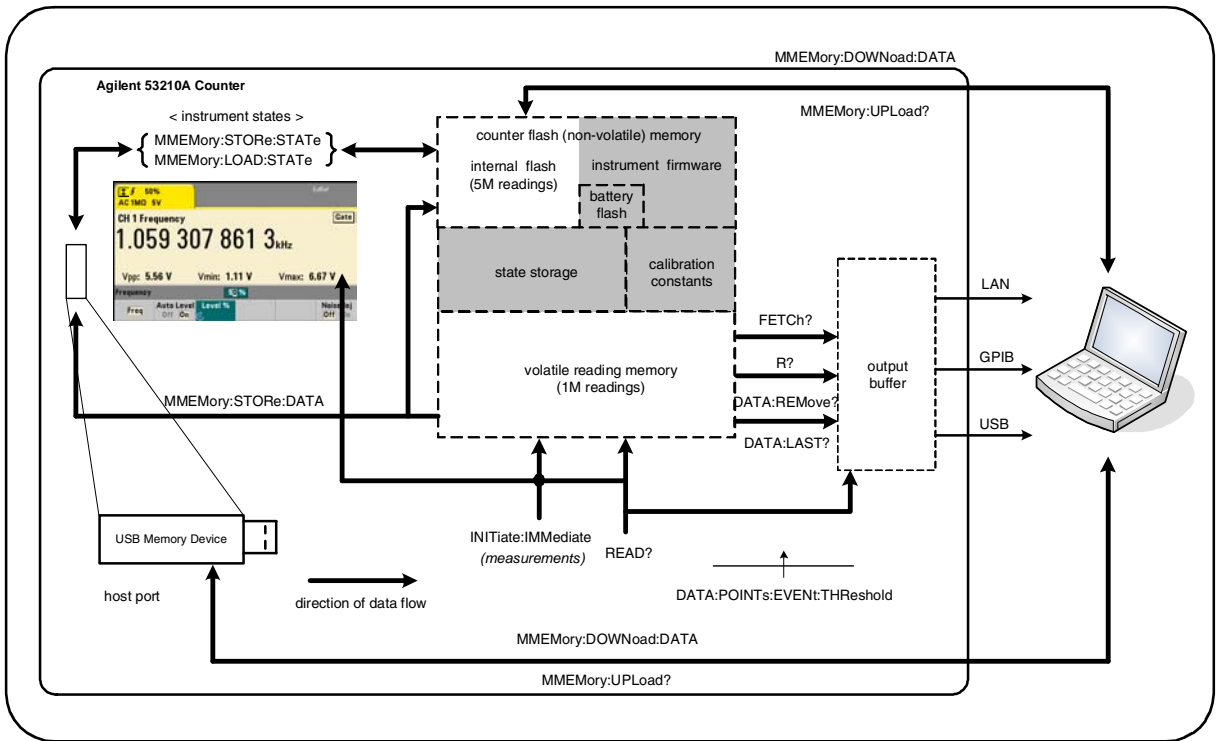

Figure 7-1. Data Flow within the 53210A Counter.
The flow of measurement data within the counter is summarized in Figure 7-1.
Counter measurements taken from the **front panel** or from an IO interface appear in the display as indicated in Figure 7-1. See Chapter 1 for an overview of display features.
In addition to being displayed, all counter readings are stored in the counter's **volatile reading memory** (Figure 7-1). Memory capacity is 1,000,000 readings. Reading memory has the following attributes:
Data is available to the PC over the LAN, USB, and GPIB interfaces once it is in the output buffer (Figure 7-1). The following section explains how readings are transferred from memory to the buffer. If during a transfer the **output buffer** fills, command execution is paused until readings are removed by the PC - creating room in the buffer. No readings are lost.
**READ?** - is equivalent to executing INITiate:IMMediate directly followed by FETCh?. With READ?, once **all** readings specified by TRIGger:COUNT and SAMPlE:COUNT are complete and in memory, they are instantaneously read into the **output buffer** (Figure 7-1).